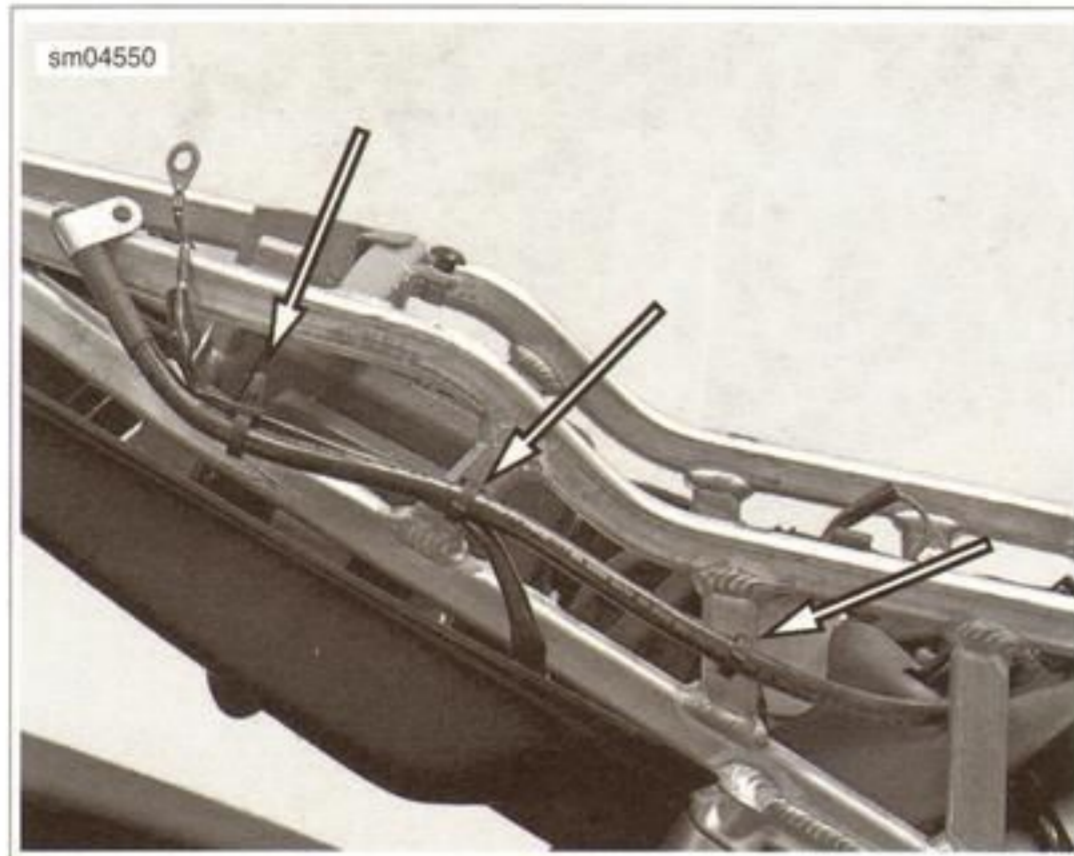

Figure 2-117. Negative Battery Cable Attachment Clips
3. See Figure 2-117. Remove the attachment clips and the negative battery cable and ground wire.